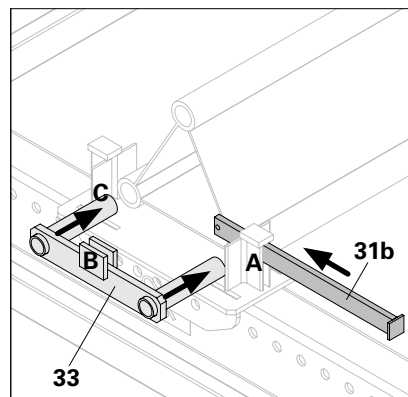

Fig. A10.02b
- (Fig. A10.02b)
6. On the last Alu Rail, push the two spigots of the Rail End Element (33) into the two lower holes of the profile tube. (Fig. A10.02b)
7. Firstly, push Holder (31b) through the guide of the Rail Support – at A – then between the lugs of the End Element – at B – and again through the guide of the Rail Support – at C. (Fig. A10.02b)